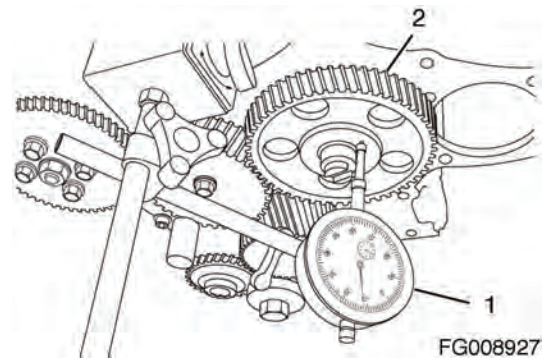

Figure 173
- Method A: Install a dial indicator (1, Figure 173) on the cylinder block. Move the camshaft (2, Figure 173) back and forth to measure the end play. Record the measurement. See "Camshaft" on page -97. for the service limit.